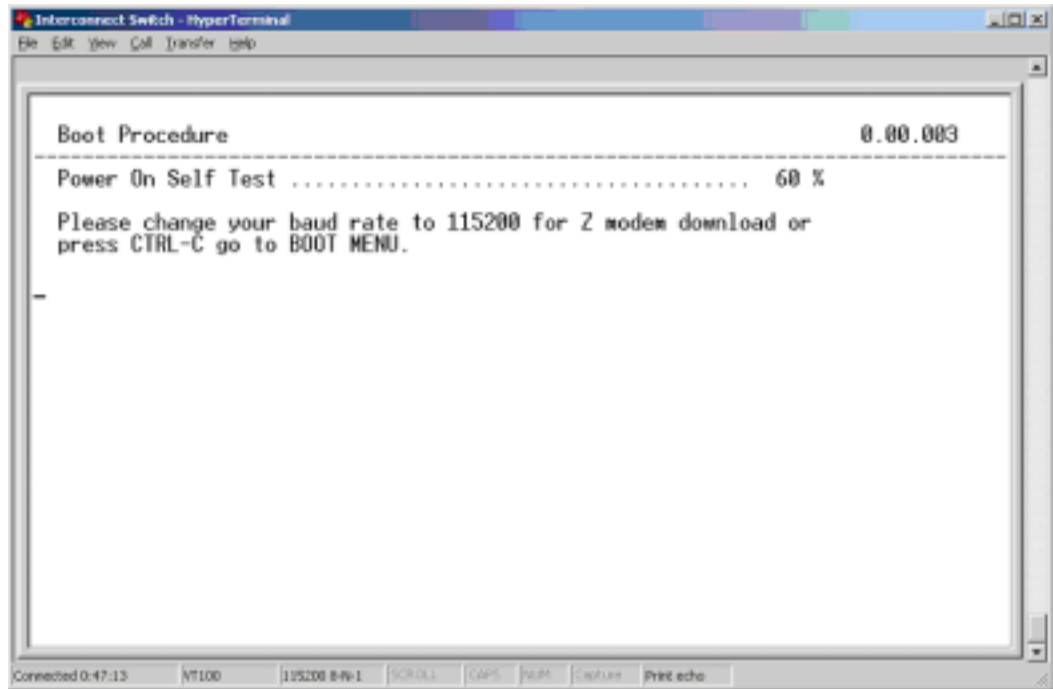

Figure F-2: Download mode message
8. While the switch module is rebooting, press the **pound (#)** key again to force the switch module into download mode. The download mode message is displayed. (See Figure F-2.)